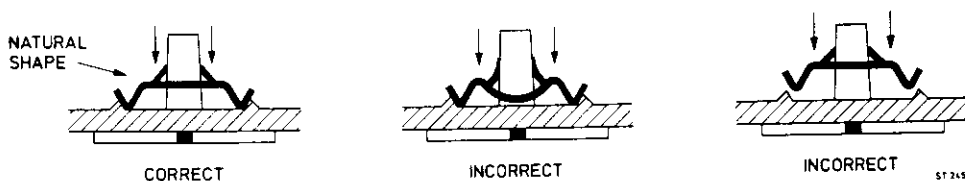

Fig. 42.
- When mounting the switch again, take care that the locking spring is not fit too tight (Fig. 42)